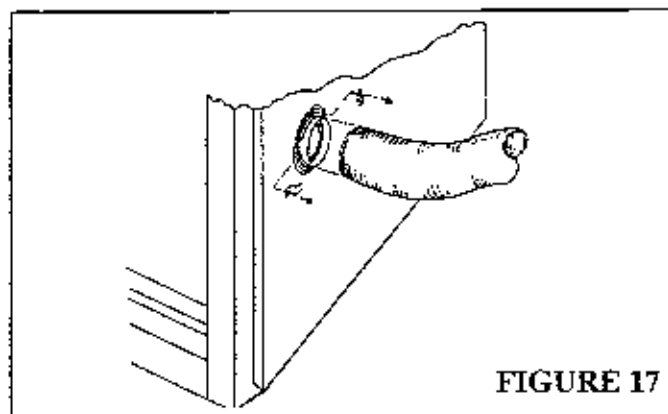

FIGURE 17
STEP 8: As shown in Figure 17, use the supplied two remaining sheet metal screws and the two clamp brackets to secure the duct to the air gate assembly.